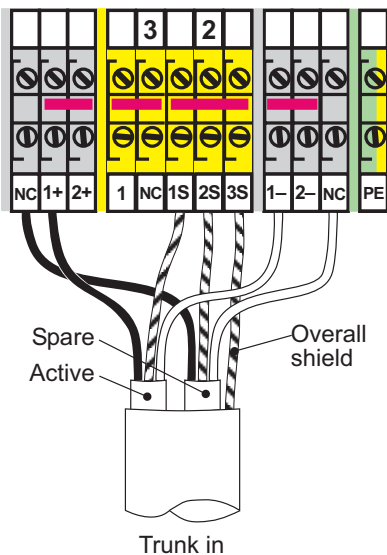

Figure 4.7 - 'Trunk In' with Active & Spare cable pairs
- d) Connect the prepared ends of the fieldbus trunk cable(s) into the appropriate '+' , '-' and 'S' terminals, shown in Figure 4.7, and tighten the screw terminals to a recommended torque of 0.6 Nm.
Note: Figure 4.7 shows the screw-terminal '-PS' assembly option, but the '-PC' cage-clamp terminal arrangement is similar.